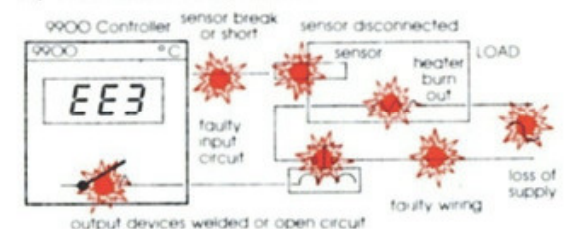

Fig. 3 Typical faults detected by LBA
- 7.3 LBA – Loop break alarm see Fig. 3**